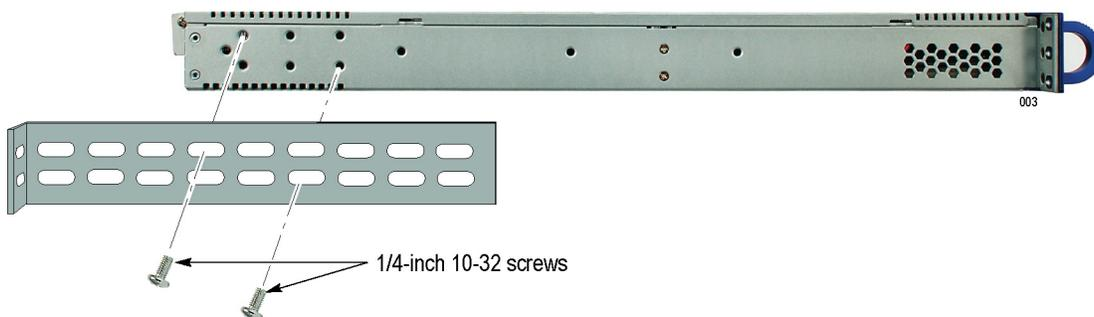

Figure 1: Install the rear rackmount brackets
2. Use two 1/4-inch 10-32 screws per bracket to install the rear rackmount brackets in the desired location in the equipment rack as shown. (See Figure 1.)